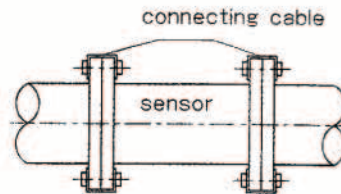

Figure 16. The connection for sensor
- a) In metal piping, the device is made potential equalization via the connection between the sensor and the adjoin pipe. See figure 15. Using this connection, the current going through the sensor itself should be less than 10aA(virtual value). The bolt connection for flanges can not be instead of the electric connection, it should have an additional electric connection as shown in figure 16.